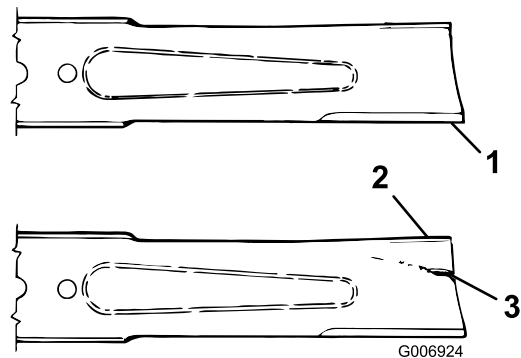

Figure 65
3. Examine the cutting ends of the blade carefully, especially where the flat and curved parts of the blade meet (Figure 65).
4. If wear is noticed (Figure 65), replace the blade; refer to Removing and Installing a Blade (page 57).